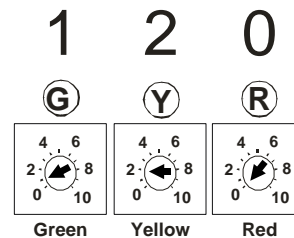

FIGURE 5
1. Start with the base setting in Figure 5 if a full exhaust system is installed. Refer to Step 2 if the stock exhaust is installed or a slip-on muffler is being used to determine the proper pot settings. Adjust and test only ONE adjustment pot at a time until you are happy with the result.